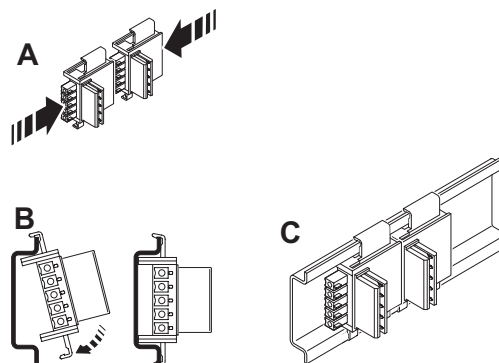

Figure 12
1. Connect together the required number of DIN rail bus connectors for the connection station. **Two** ME 17,5 TBUS 1,5/5-ST-3,81 connectors, Order No. 27 09 56 1, are required for **each device** (Figure 12).